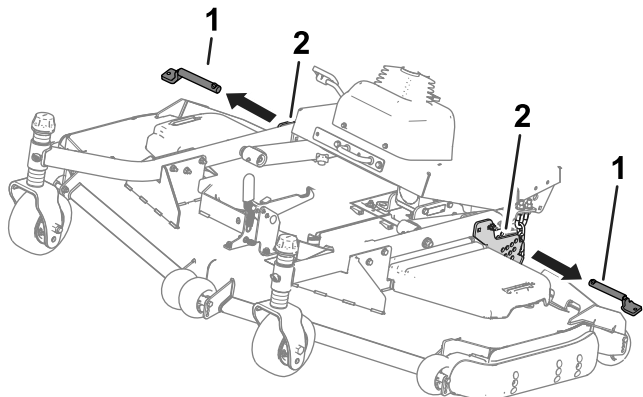

Figure 34
4. Remove the pins from the height-of-cut plates (Figure 34).